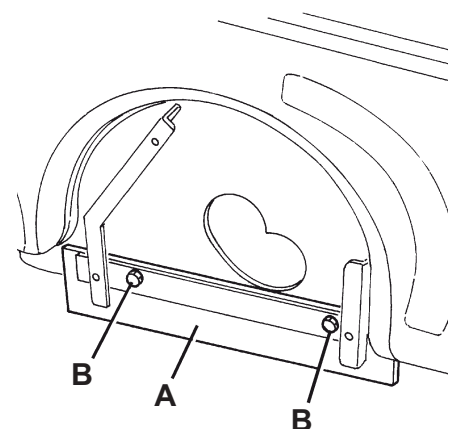

Figure 16
2. Open the machine hood (10) and engage the hood support rod (43).
3. Remove the belt (54) from the pulley (55); for an easier removal, turn the pulley (55) by manually operating on the vacuum fan (56).
4. Remove the screws (27) and the right lid (26) together with the belt (54). Adjust the height of the skirt (A, Fig. 16) by using the slots (B).